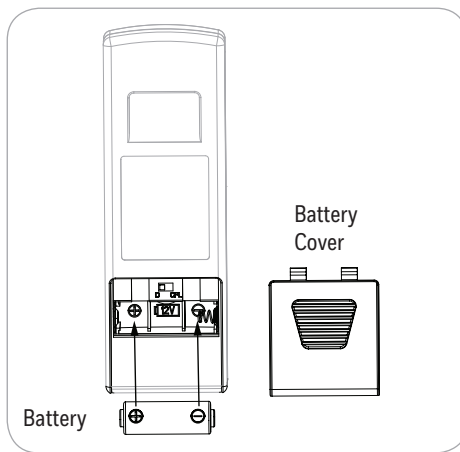

Figure 5.8
8. Remove the battery cover from the back of the remote and insert the 12-volt battery, noting polarity -- positive (+) to positive (+) and negative (-) to negative (-). Replace the battery cover. If battery is installed correctly, the LED indicator on the front of the remote transmitter should illuminate when any button is pushed (Figure 5.8).